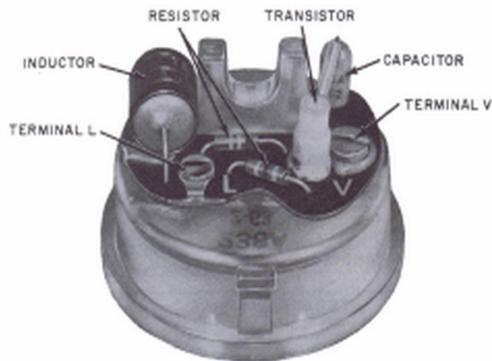

Fig. 1—238A Amplifier, Showing Terminal Locations
1.01 The 238A, 276A, and 277A amplifiers are single stage circuits. Each circuit consists of a transistor, an inductor, a capacitor, resistors (and in the case of the 277A, a polarity guard) all mounted on a printed circuit board and attached to a special transmitter cup (Fig. 1, 2, and 3).
3.03 Connect handset cord to amplifier terminals (Fig. 1, 2, or 3) as follows: